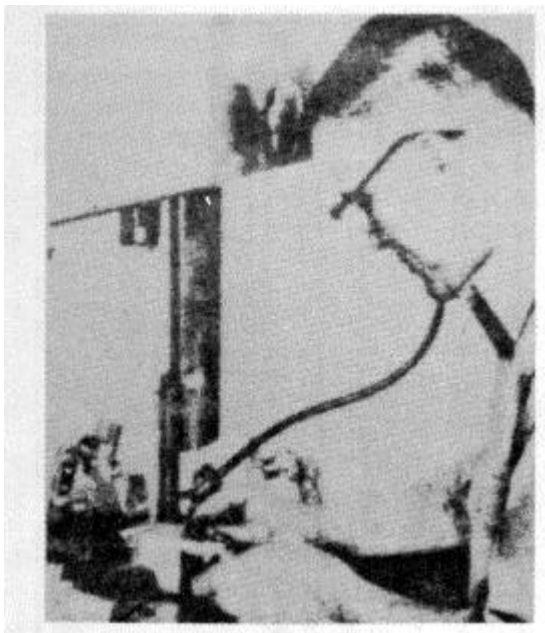

Fig. 29 - Band polishing on the 1612-0. Note the special guides and table center plate. Adjust the air nozzle to blow away dust.
- (5) Mount and track the polishing band on the wheels in the same manner as the file bands. The correct polishing band tension is the same as that used for a 1/16-in. wide carbon saw band.
- (6) Install the special center adapter plate in the table (fig. 29).
- (7) Do not use coolant with the polishing band.